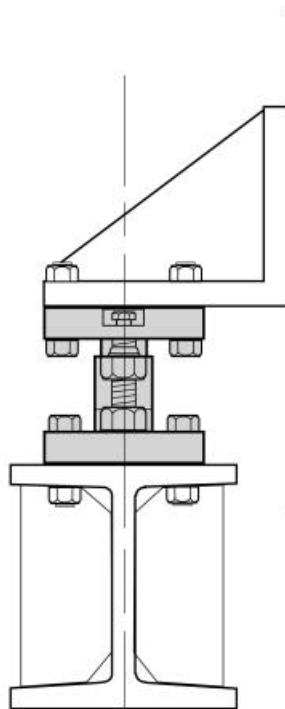

Figure 5-8b
- Figure 5-8b: Support bracket and support structure are aligned properly.